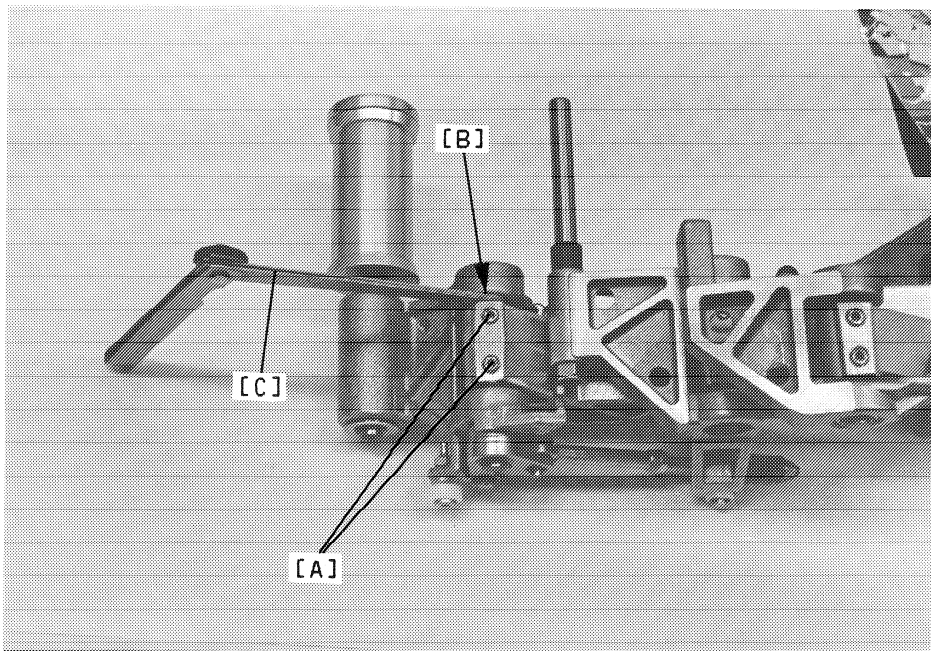

Fig. 14
- Remove the tape drive-assembly. Loosen the set screws A (Fig. 14) and adjust to a distance B for 1,6 mm by using a feeler gauge C (Fig. 14). Reinstall the assembly.